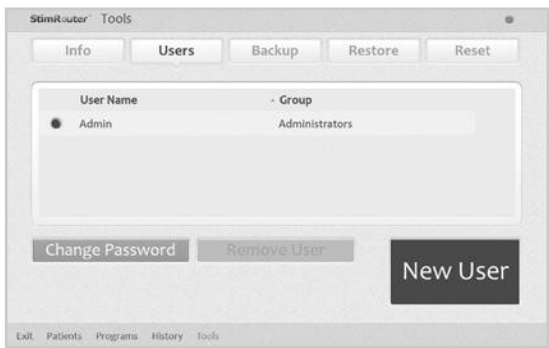

Figure 11-2: Adding a user/administrator
- 1. Press “Tools” on the Menu Bar, press the Users Tab and then press the “New User” button. See Figure 11-2.